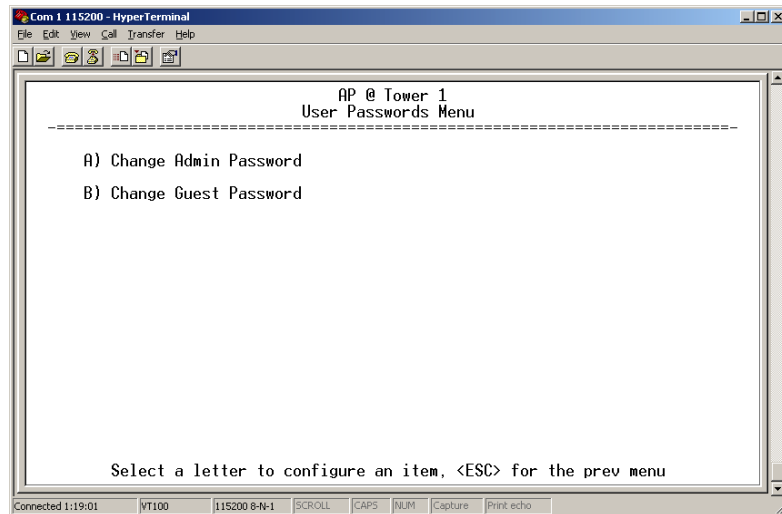

Figure 3-29. User Passwords Menu
- **User Passwords**—Allows changing of Administrative and Guest passwords. When selected, a new screen appears (Figure 3-29).